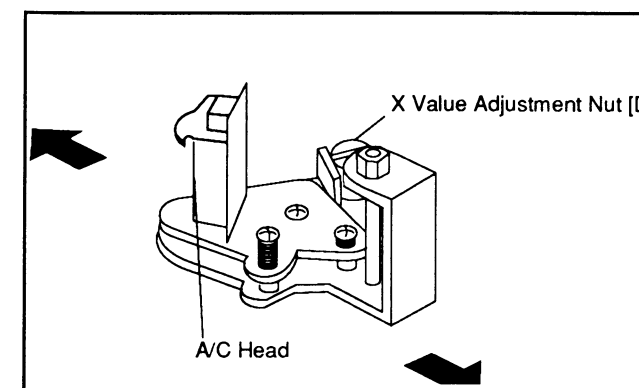

Fig. M9
4. Adjust X Value adjustment Nut [D] with the X Position Adj-Fixture so that the PB FM signal at the TP of C-PB or at the TP of A-OUT is maximum. (Fig. M9)